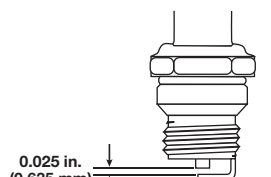

Fig. 8
4. Set the air gap, according to specifications, using a feeler gauge (Fig. 8).